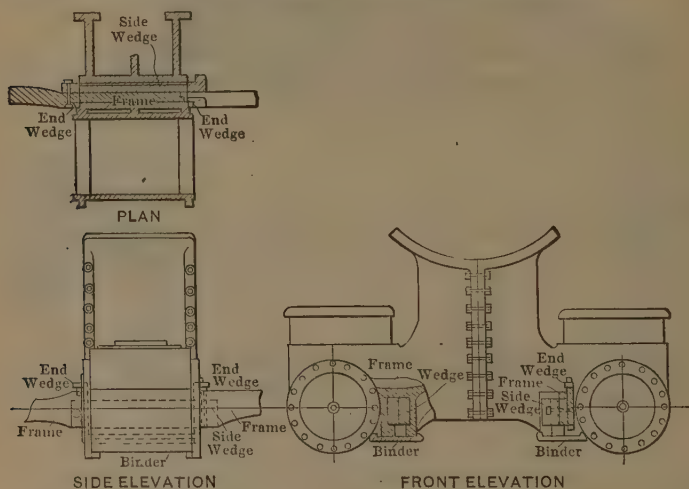

Fig. 118 Cylinder Fastening.
A. The cylinder and half-saddle cast in one. (See Fig. 118.)
A. No; some Philadelphia and Reading engines have them wedged together as shown in Fig. 118.